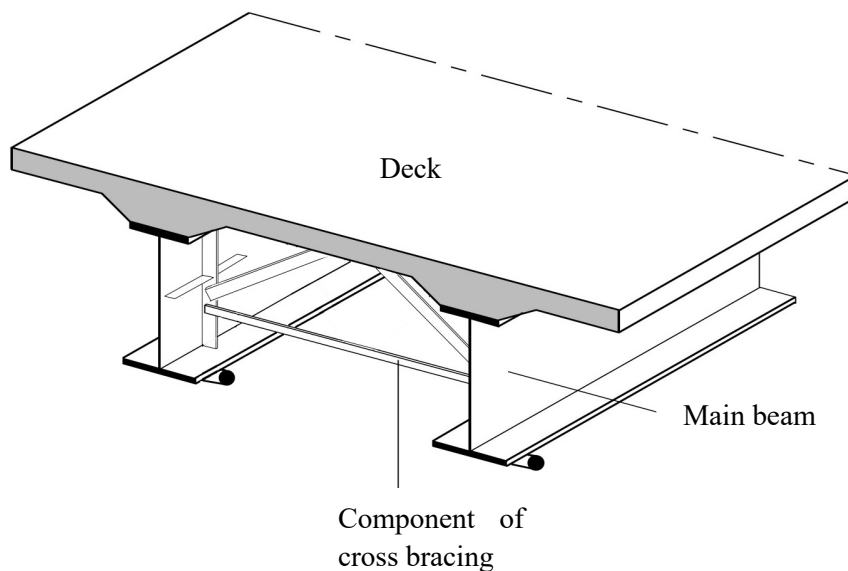
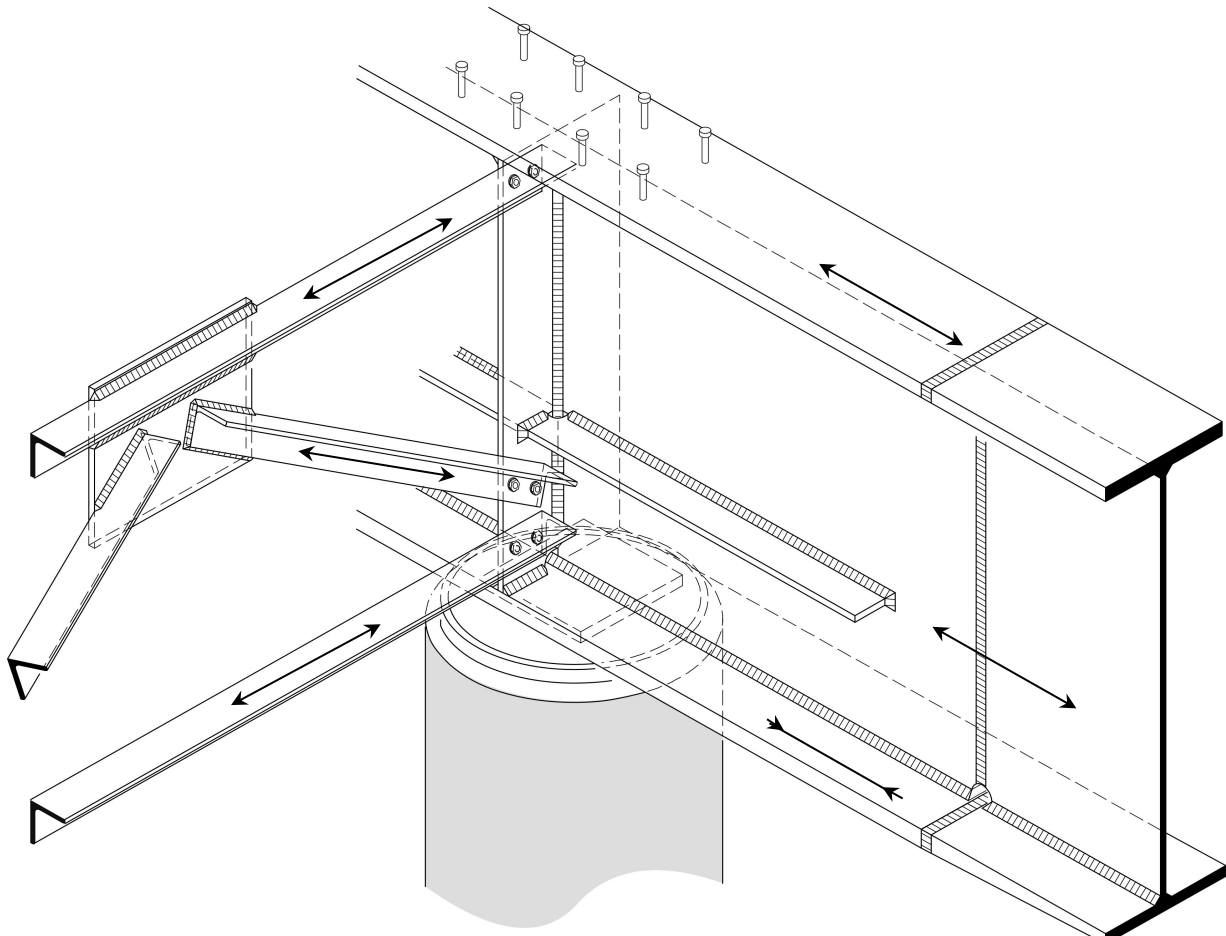

Figure 2: Isometrics of a typical cross-section of a composite bridge
Figure 3: Isometry of the support region with the main loading direction of each component (ref.: adapted from a figure of ESDEP lecture 12.9)
Let us consider a steel-concrete composite bridge. An isometric general view of a typical section of the structure is shown in Figure 2. It has different details where fatigue damage and cracking can occur. An enlarged view with all the details, as well as the main loading direction of each component, is given in Figure 3.
1. On Figure 3, identify the different potential locations of fatigue cracking (draw where and in which direction each crack will propagate).